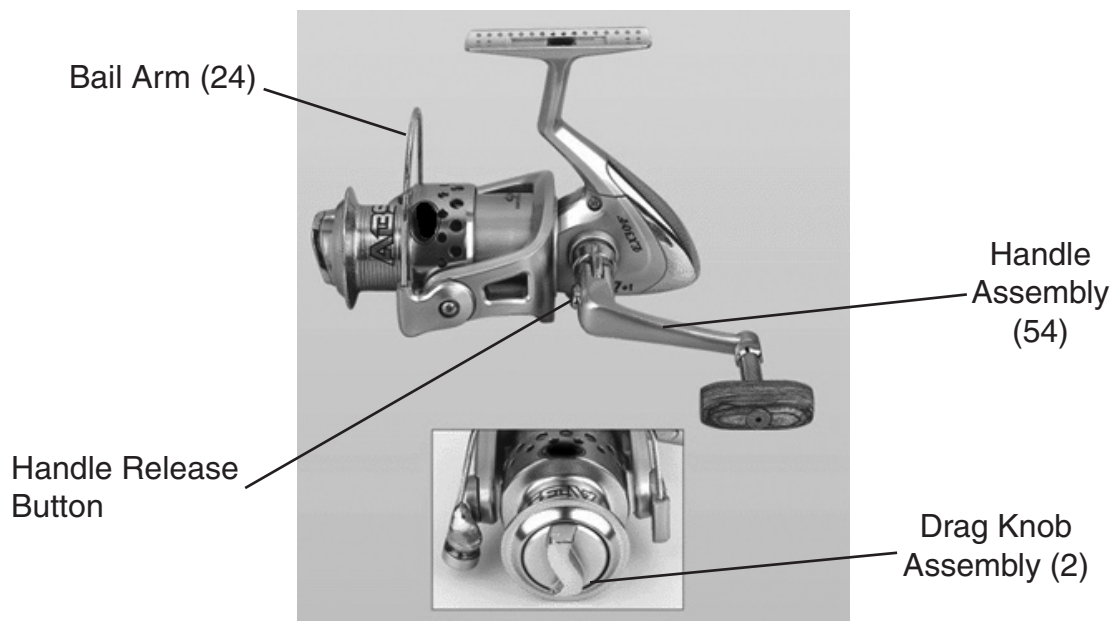

Figure 1
1. To change the location of the Handle Assembly (54), unscrew Handle Cap (46), remove Handle Assembly (54) and reassemble it to the other side of the Fishing Reel-see Figure 1.
2. The Handle Assembly (54) can be folded up next to of the Fishing Reel by pressing the Handle Release Button on the Handle and gently folding it upward and out of the way.
1. The Bail Arm (24) can be either set to an Open or Closed position-see Figure 1.
2. When in the closed or down position, the Bail Arm (24) prevents line from being released and coming off of the Spool. When the Bail is opened, the line is ready to be released during a cast.
3. Turn the Drag Knob Assembly (2) toward either the "Less" (counterclockwise-when facing knob) or "More" (clockwise) drag setting-see Figure 1. Adjust as necessary.